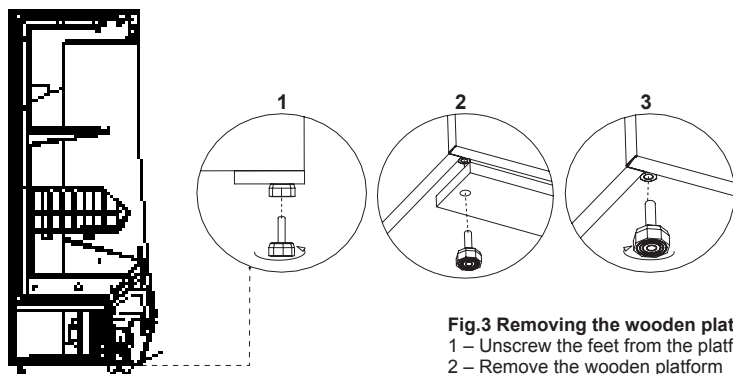

Fig.3 Removing the wooden platform
- Unpack the device and remove the wooden platform from the basis Fig.3 (p.4)